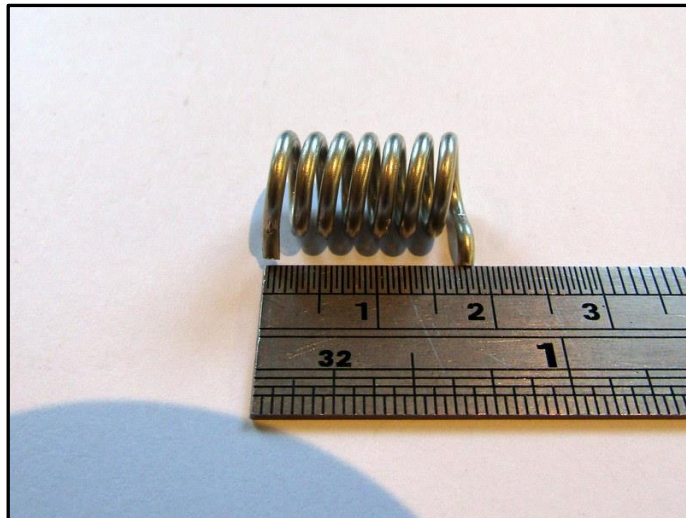
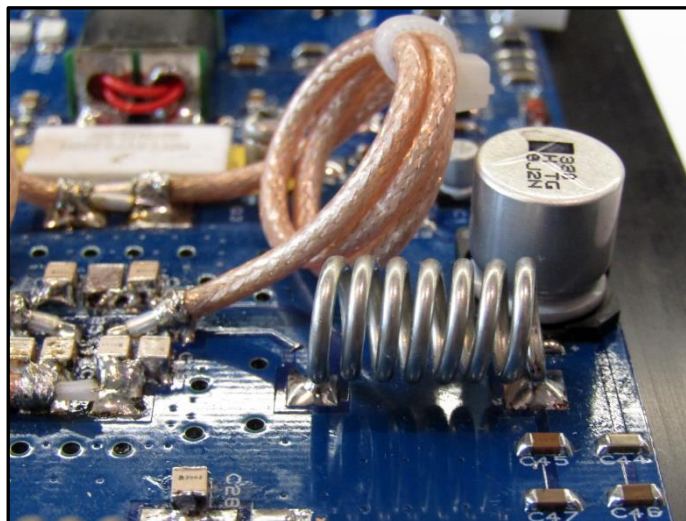

Figure 9: L7 Winding detail.
Figure 10: L7 position.
13. Cut a 200mm piece of 16SWG tinned copper wire and form a 7 turn coil around a 6.5mm drill bit. The length of this coil should be 18mm from centre-to-centre of the wire as shown in figure 9. Bend and trim the excess wire to form 2mm leads. Solder the coil in position as in figure 10. This is L7, the DC drain feed coil for the RF power transistor.